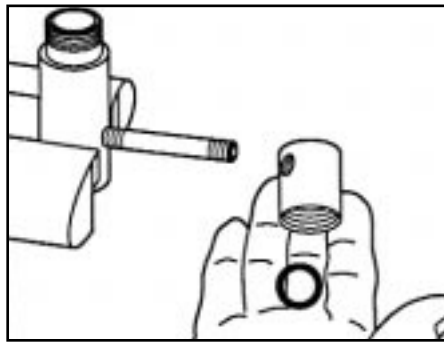

Figure 36
13. Remove the oiler body and pump/oiler connector from the oil chamber. (Fig. 36 & 37)